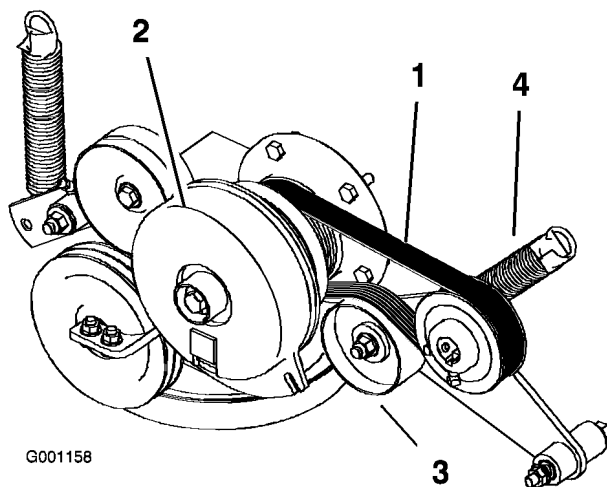

Figure 60
3. Remove the spring from the idler arm (Figure 60).
4. Install the new belt around the engine and hydro pump pulley (Figure 60).
6. Install the spring to the idler arm (Figure 60).